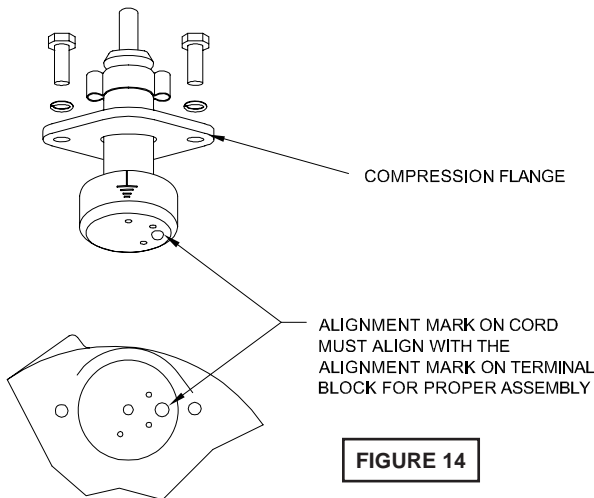

FIGURE 14
Power/Control Cable - Refill the cooling oil as outlined in paragraph F-1.3. Make wire connections as outlined in paragraph F-4.3. Insert female end of cable plug into housing bore aligning timing mark with hole in terminal block (17) see Figure 14. Compress cable plug with compression flange (14) by tightening hex bolts (01) into the housing (5). Torque